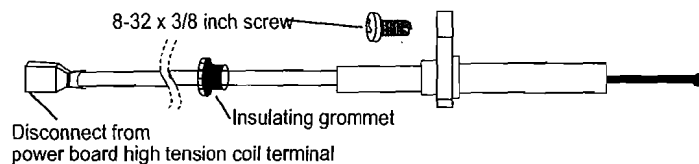

Figure 8. Spark/sense electrode assembly.
- Remove the spark/sense electrode. Loosen the 8-32 x 3/8 inch screws using a #2 Phillips screwdriver. See Figure 8.